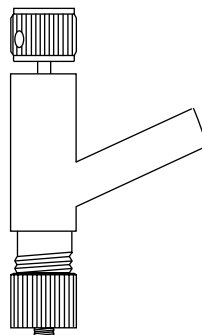

Figure 68. Vacuum Connector Required for Pumping
- Special vacuum pumpdown connector, as shown in Figure 68.